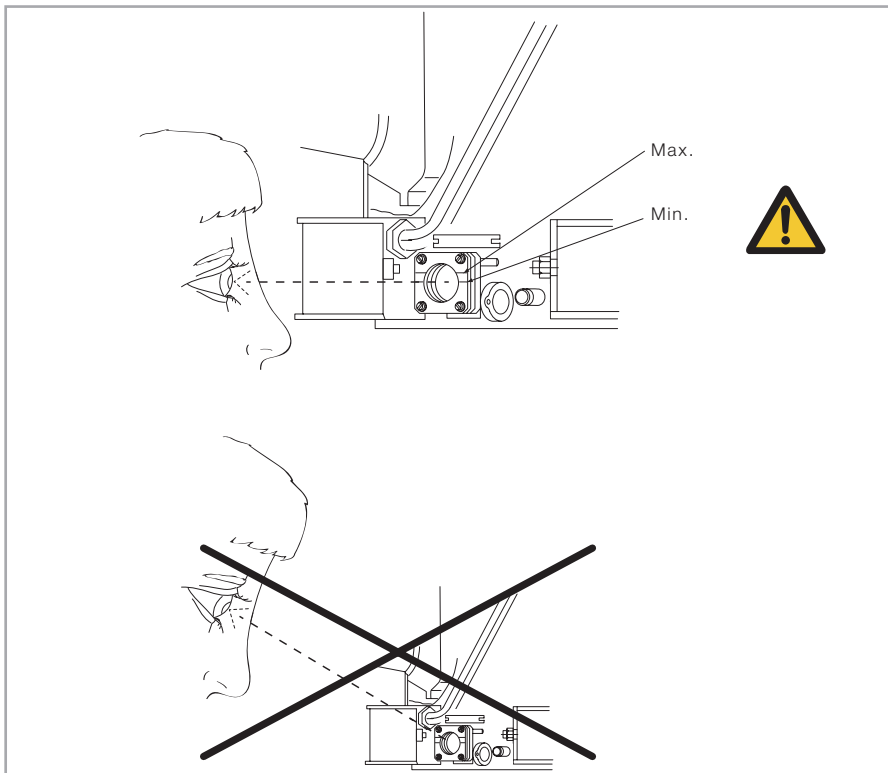

Fig. 11 Checking the level of the pump fluid
- After having filled in the pump fluid, wait a few minutes for the pump fluid to spread and then read off the oil level at the oil level sight glass. In order to correctly determine the oil level, read off the filling level at eye level (cf. Fig. 11).